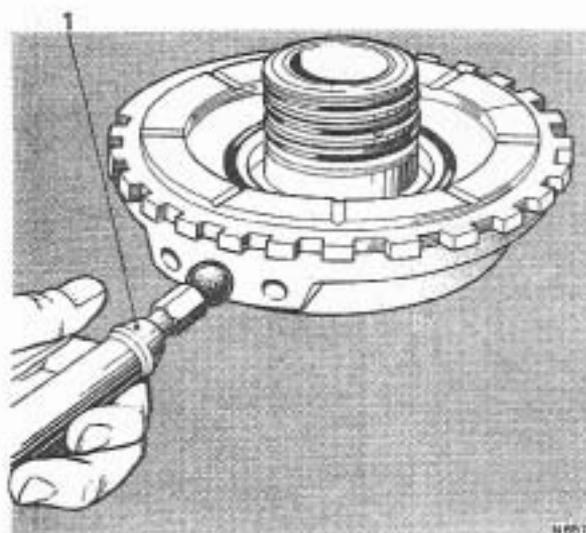

FIG. T267 AIR TESTING THE INTERMEDIATE CLUTCH
8. Air test the operation of the intermediate clutch piston. Apply an air pressure of approximately 70 lb/sq.in. (4,92 kg/sq.cm.) through the centre oil feed hole to actuate the clutch piston (see Fig. T267); the piston should be heard and felt to move.